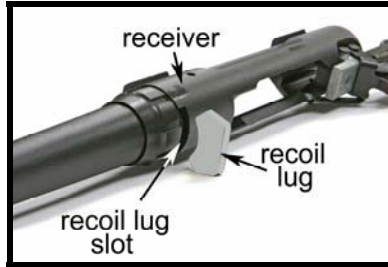

FIGURE 15
4. Position the action above the stock so that the recess in the receiver is perfectly aligned with the recoil lug in the stock (see FIGURE 15). NOTE: In FIGURE 15, the recoil lug has been removed from the stock to clearly illustrate its correct alignment with the receiver.